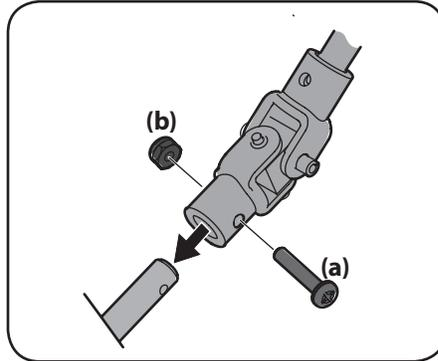

Figure 2-12
3. Remove the screw (a) and hex lock nut (b) from the universal joint. See Figure 2-12.
4. Install the universal joint on the end of the chute rod as shown in Figure 2-12.
5. Secure the universal joint with the hex lock nut (b) and screw (a) removed in Step 3. See Figure 2-12.